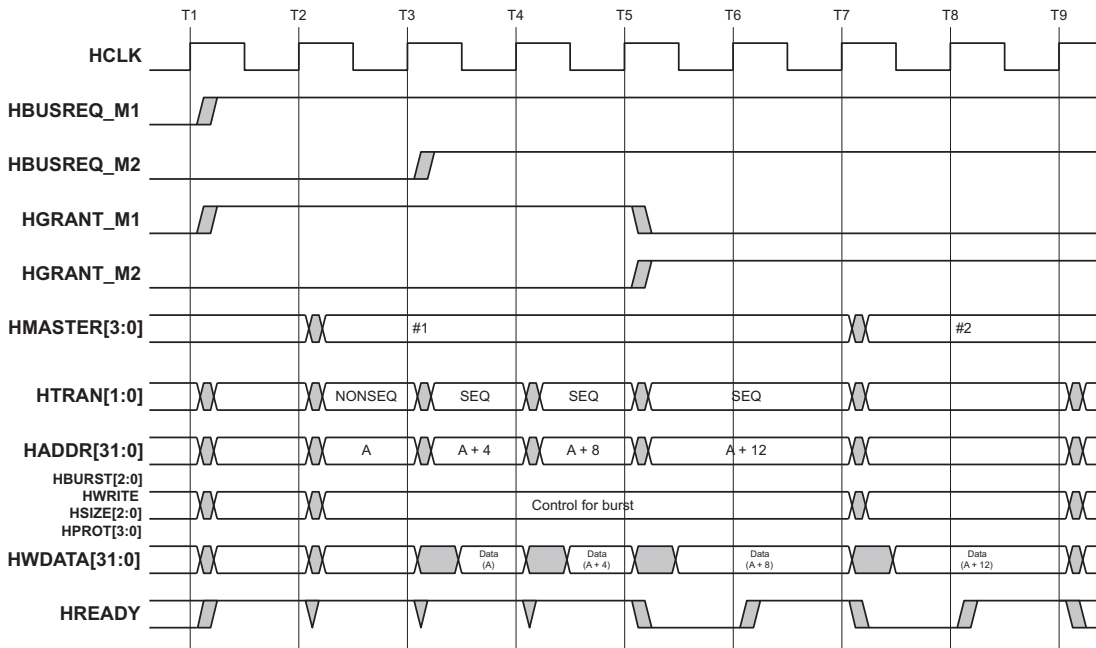

Figure 16: Handover after Burst
- Hand-over after burst (Figure 16 on page 41)